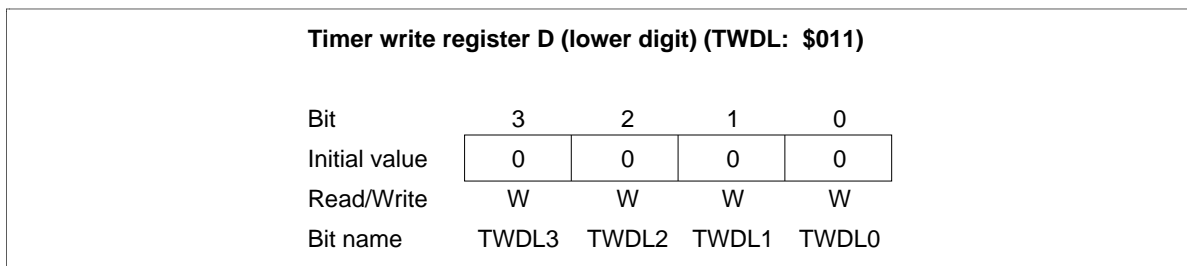

Figure 62 Timer Write Register D Lower Digit (TWDL)
- Timer write register D (TWDL: \$011, TWDU: \$012): Write-only register consisting of a lower digit (TWDL) and an upper digit (TWDU) (figures 62 and 63). The operation of timer write register D is basically the same as that of timer write register B (TWBL: \$00A, TWBU: \$00B).